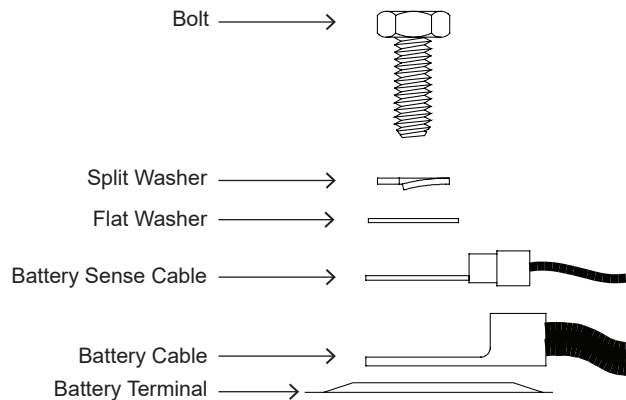

Fig. 2-16, Hardware stack-up, Threaded Battery Insert
1. Place the batteries on the enclosure's battery slide tray or battery shelf. Refer to Fig. 2-16 for correct battery arrangement. Position the batteries to allow maximum ventilation space between the batteries.